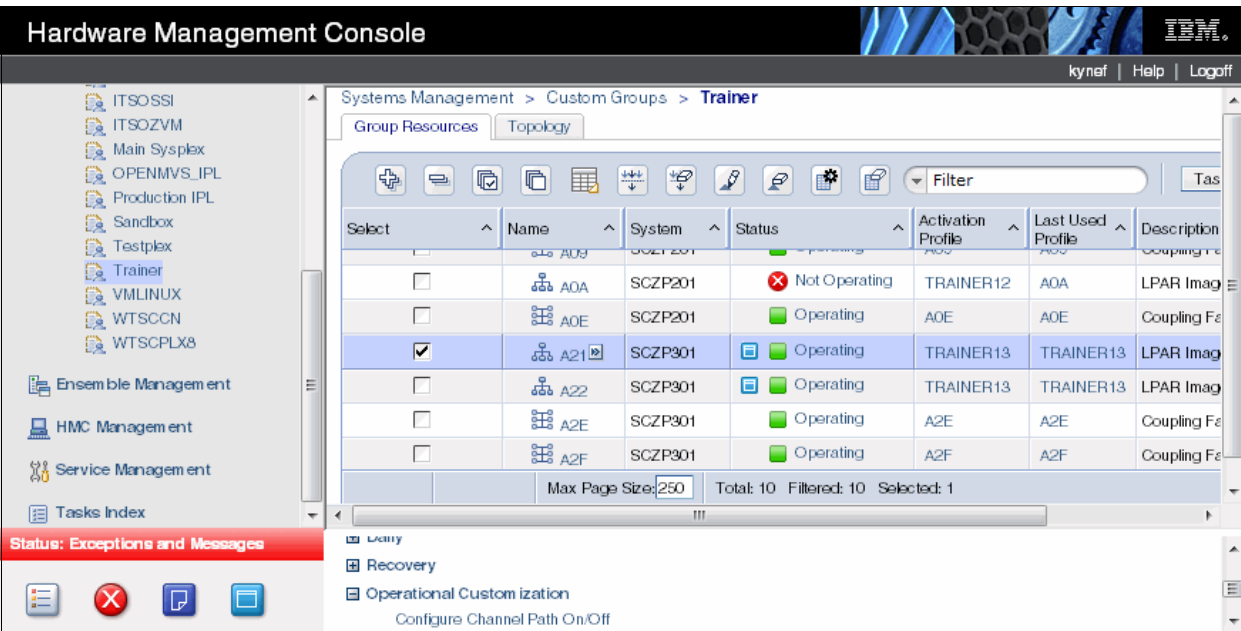

Figure 7-15 Toggling a CHPID offline using the HMC
7. Click the **Configure Channel Path On/Off** option. This is shown in Figure 7-15.